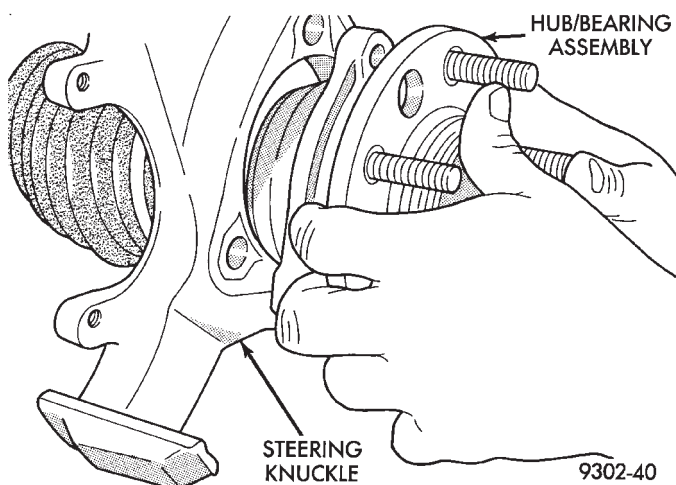
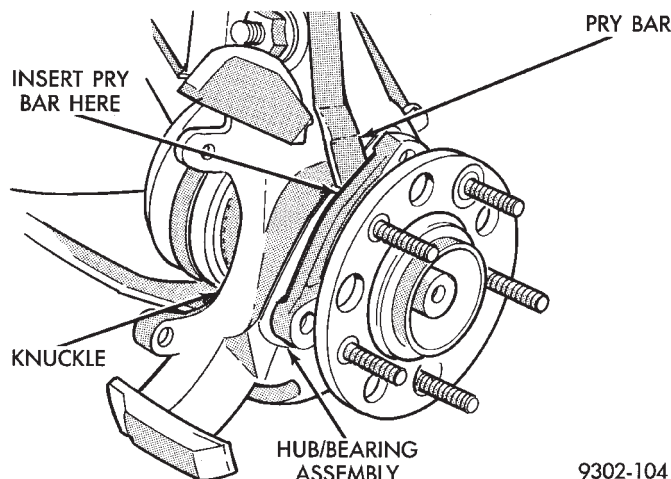

Fig. 6 Hub And Bearing Assembly Removal And Installation
Fig. 7 Prying Hub And Bearing Assembly From Steering Knuckle
(7) Remove hub and bearing assembly from steering knuckle, by sliding it straight out of steering knuckle and off end of stub axle (Fig. 6). If hub and bearing assembly will not slide out of knuckle. Insert a pry bar between hub and bearing assembly and steering knuckle (Fig. 7) and gently pry hub and bearing from knuckle. If stub shaft is frozen to hub and bearing assembly tap end of stub shaft with soft face hammer to free it from hub and bearing spline.
(1) Install hub and bearing assembly onto stub shaft and into steering knuckle until squarely seated on face of steering knuckle. (Fig. 6).